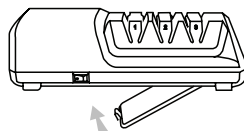

Figure 11
- 3) Install the sharpening dust drawer: as shown in Figure 11 .close the dust drawer.